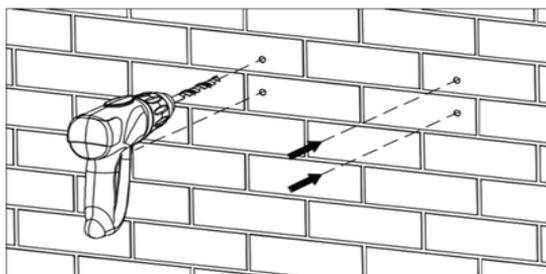

Figure 11 Drilling
(2) Drill 4 installation holes on the wall with electric drill. As shown in Figure 11